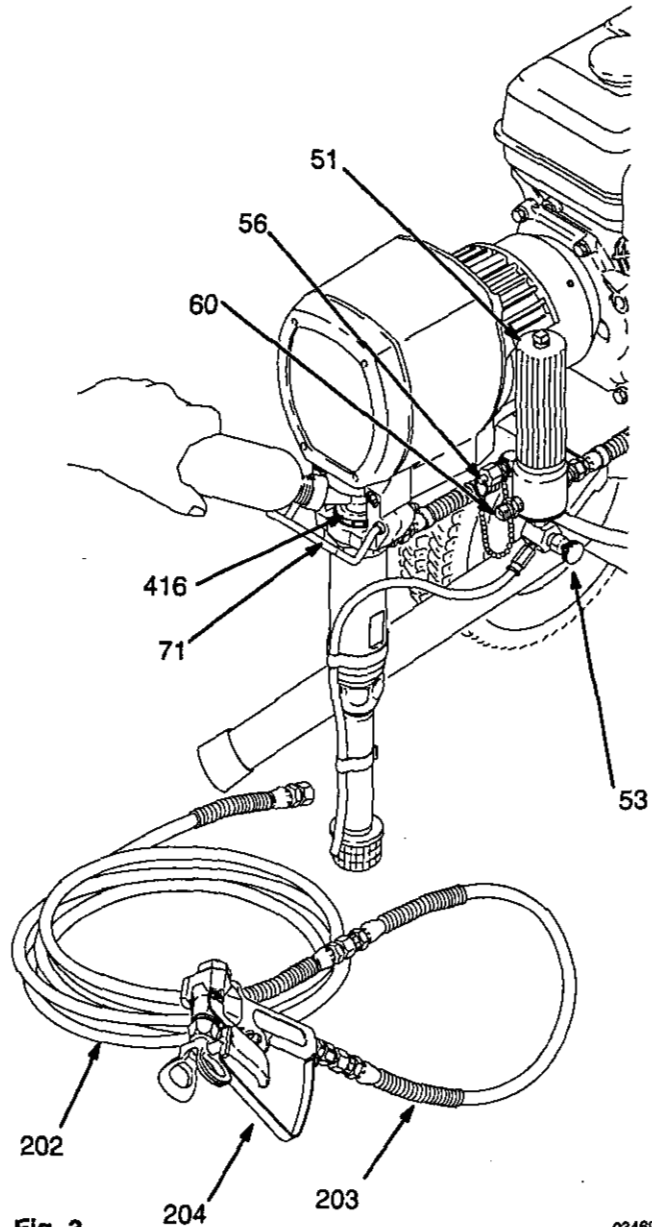

Fig. 3
3. Never install any shutoff device between the filter (51) and the main hose (202). See Fig. 3.
4. Always use the main filter outlet (60) for a one gun operation. Never plug this outlet.
1. Connect hose and gun. (Refer to Fig. 3.)
- a. Remove the plastic cap (56) from the 1/4 npsm (m) filter outlet nipple (60). Screw the first 50 foot (15.2 m) main fluid hose (202) onto the nipple. Connect the second 50 foot hose (202) to the first 50 foot with the coupling nipple (205). Read the CAUTION, above.
- b. Connect the whip end hose (203) between the main fluid hoses and the inlet adapter of the gun (204).